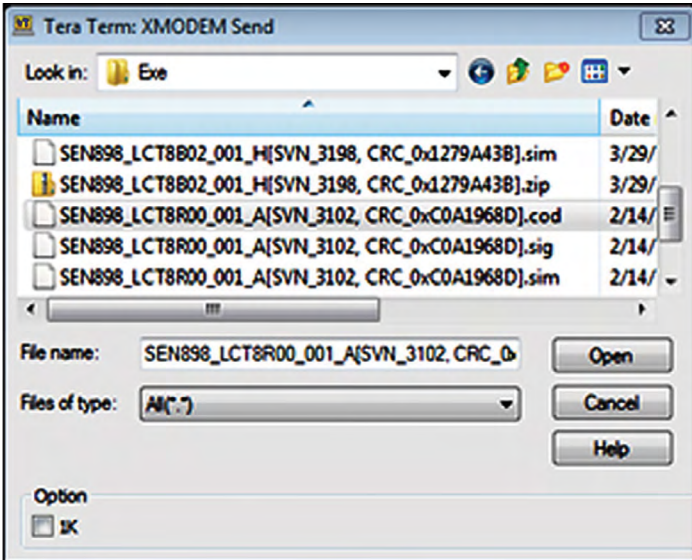
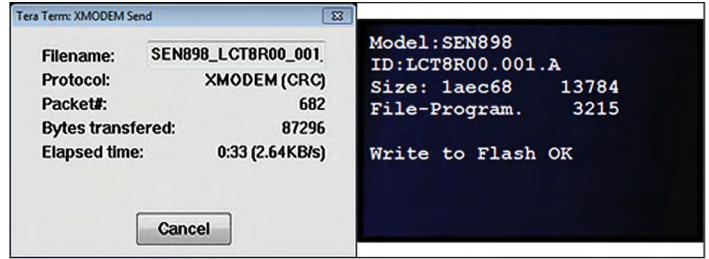

Figure 79: XMODEM send file selector
Figure 80: XMODEM Send status (left) and meter display file receive status (right)
6. When the *Tera Term: XMODEM send* file selector window opens (see *Figure 79* on page 81), locate and select the .cod extension file from your PC. After selecting the .cod extension file, click open and the status window shown on the left in *Figure 80* on page 81 opens. At this time, the meter display shows the file receive status (see the right of *Figure 80* on page 81).